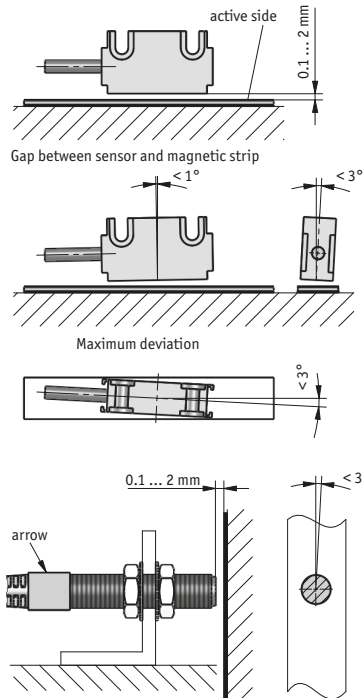

Fig. 6: Mounting of sensor
- When mounting the magnetic sensor, ensure that the gap between strip and sensor and the max. admissible deviation are maintained over the total measuring length! (see fig. 6)